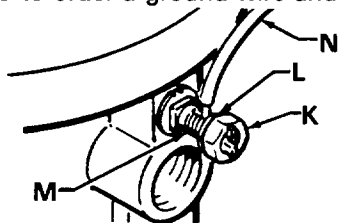

Fig 1
To ground the pump, loosen the grounding lug locknut (K) and washer (L). Insert one end of a 12 ga (1.5 mm²) minimum ground wire (N) into the slot in the lug (M) and tighten the locknut securely. See Fig 1. Connect the other end of the wire to a true earthen ground. Refer to page 9 to order a ground wire and clamp.